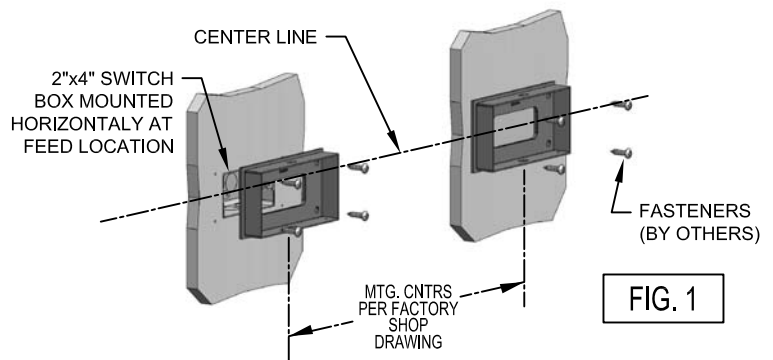

FIG. 1
STEP 1 MOUNT A 2"x4" SWITCH BOX CENTERED 3-9/16" INBOARD FROM FEED END OF FIXTURE. SWITCH BOX SHOULD BE MOUNTED IN A HORIZONTAL ORIENTATION. (FIG 1 & 2)
STEP 4 ATTACH ADDITIONAL WALL BRACKETS TO WALL AT LOCATION(S) AS SPECIFIED ON FACTORY SHOP DRAWING. TAKE CARE TO ENSURE THAT WALL BRACKETS ARE LEVEL AND ON SAME CENTER-LINE AS FIRST BRACKET INSTALLED. (FIGS 1 & 2)